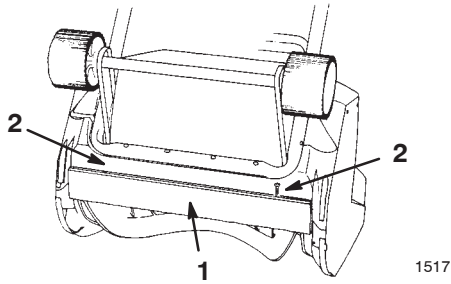

Figure 10
The scraper is located at the bottom of the rotor housing as shown in Figure 10.
1. Remove the 2 screws that secure the scraper to the snowthrower (Fig. 10).